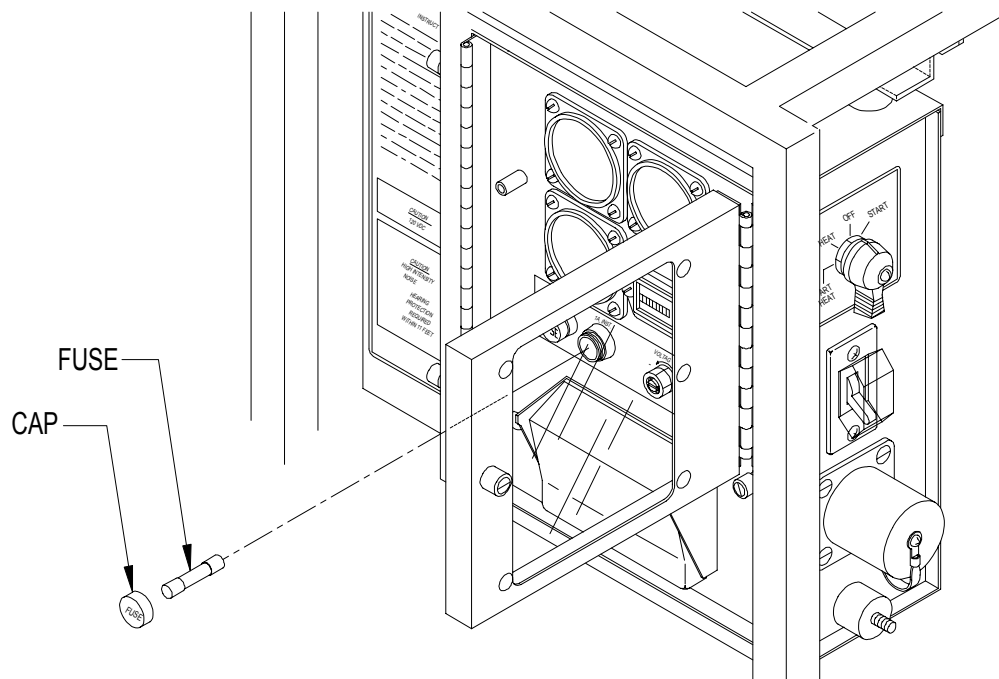

Figure 3-1. Fuse (F1) Replacement
- (1) Shut down generator set.
- (2) Release instrument cover by turning fastener, open instrument cover.
- (3) Remove cap and fuse (Figure 3-1).
- (1) Inspect fuse (Figure 3-1) for cracks and burned out element. Discard fuse if defective. If necessary, remove spare fuse from spare fuse holder.
- (1) Insert fuse into fuse holder and install cap (Figure 3-1).
- (2) Close and secure instrument cover.